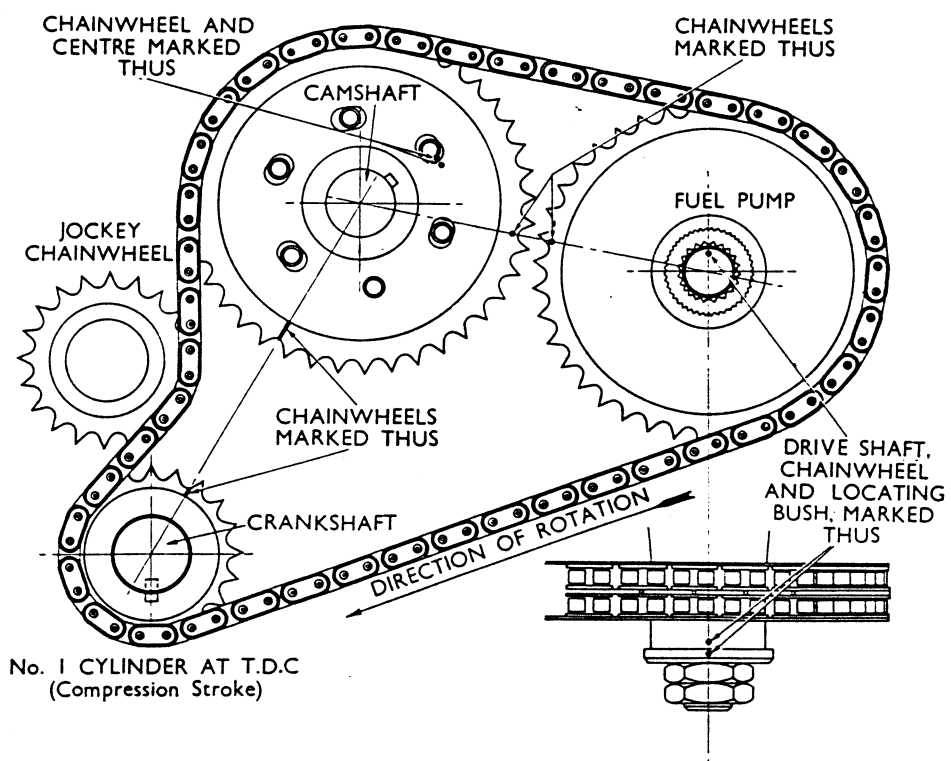

FIG. 131
6. If the camshaft chainwheel has to be extracted separately without its centre, first confirm that the chainwheel and centre are marked as indicated in Fig. 131, if not, mark both parts with punch dots as shown, otherwise resetting will be necessary (see under "Valve Timing B" paras 7 — 9). However, should the timing chain be renewed resetting will probably be required, see "Camshaft
**A.** The following procedure assumes that the adjacent teeth of the camshaft, crankshaft and fuel pump chainwheels are marked as shown in Fig. 131, when No. 1 inlet and exhaust valves are fully closed and with No. 4 inlet valve just opening and exhaust valve just closing.
4. Turn crankshaft clockwise through  $90^\circ$  and set keyway accurately at B.D.C., see Fig. 131, thereby bringing Nos. 1 and 4 pistons to T.D.C. Note also that the centre line of the key passes straight through the tooth diametrically opposite.
6. Secure camshaft chainwheel to centre, with punch dots coinciding, by means of six set screws on flat and lockwashers, accurately aligning scribe and punch marks of crankshaft, camshaft and injector pump chainwheels as shown in Fig. 131. Ensure all the slack links in the chain are between the crankshaft and camshaft chainwheels.
- B.** The following procedure assumes that neither crankshaft or camshaft chainwheels or the camshaft centre are marked as shown in Fig. 131.
6. Turn crankshaft clockwise through  $90^\circ$  and set keyway accurately at B.D.C., see Fig. 131, thereby bringing Nos. 1 and 4 pistons to T.D.C.
9. Fit locating screw and record the correct position by marking chainwheel and centre as shown in Fig. 131. Fit remainder of screws over flat and lockwashers.
10. With crankshaft and fuel pump chainwheels set as shown, mark camshaft and crankshaft chainwheels in positions indicated in Fig. 131, on lines passing directly through the middle of the crankshaft and injector pump drive shaft.
Any replacement or relocation of parts affecting valve and injector pump timing must be marked in accordance with Fig. 131.
To cater for this and allow for variations in chain length both in production and when fitting a service replacement, the chain-wheel is secured to its centre by six fixing screws and their spacing allows for  $1\frac{1}{2}^{\circ}$  stages of vernier adjustment. The chain-wheel has one positive hole and five elongated slots, punch dots as shown in Fig. 131, indicate the relationship.